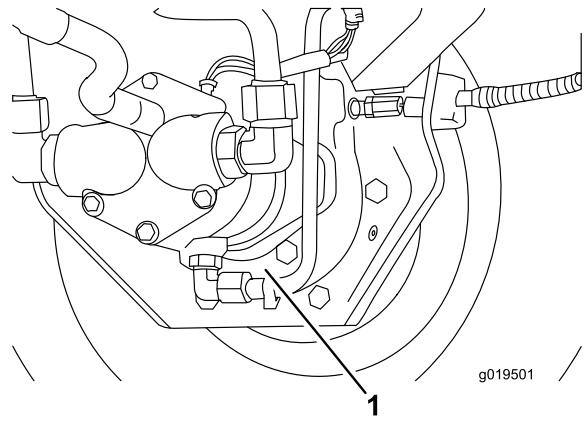

Figure 61
3. Place a drain pan under the brake housing, remove the drain plug, and allow the oil to drain (Figure 61).